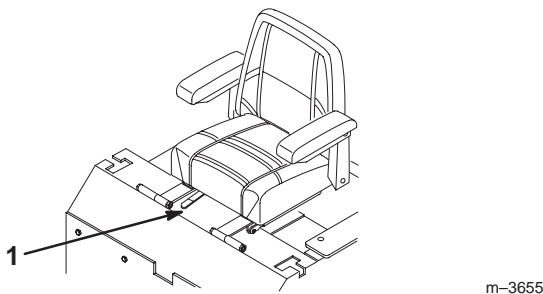

Figure 20
- To adjust, move the lever sideways to unlock seat (Fig. 20).